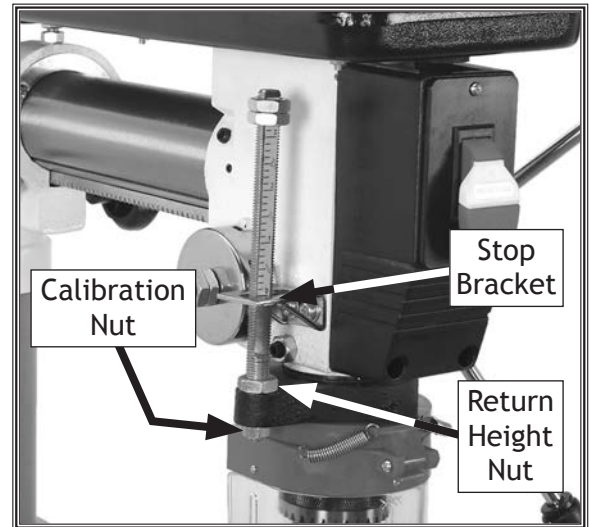

Figure 41. Depth-stop components.
1. Loosen the return height nut and calibration nut shown in Figure 41.